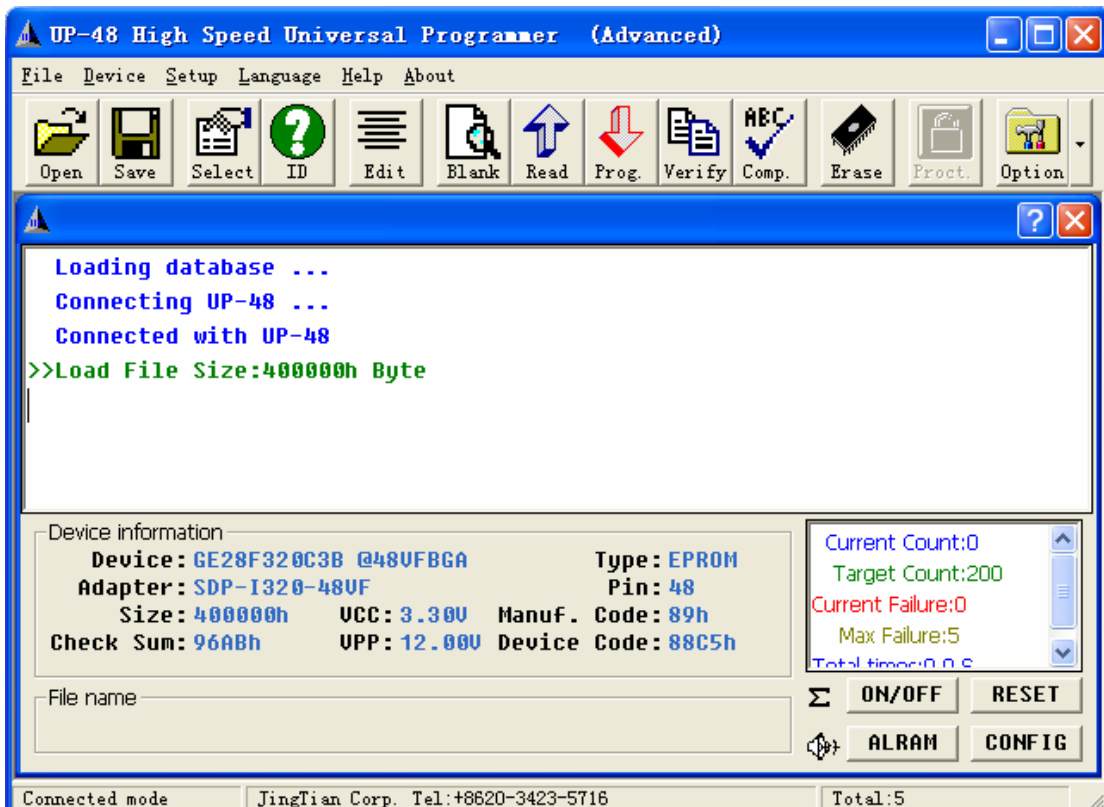

Fig. 1
- ✧ Click “Start”/“Program”/“UP48”/“UP48A” to start up the program, as Fig. 1